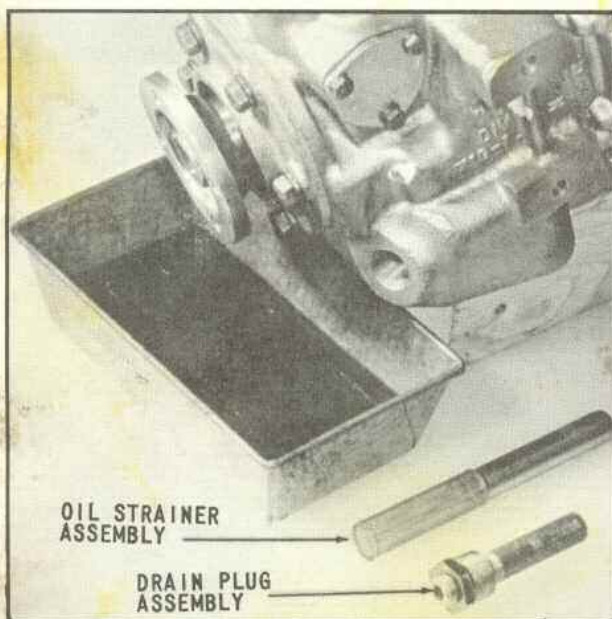

Fig. 18 Draining Transmission Oil
2. If space permits, place container having approximately two (2) quart capacity under drain cap, located as shown in (Fig. 18). Unscrew the drain plug and cooler return tube assembly, reach into the opening with a suitable tool, and remove the strainer assembly, (Fig. 77). Allow oil to drain into pan.